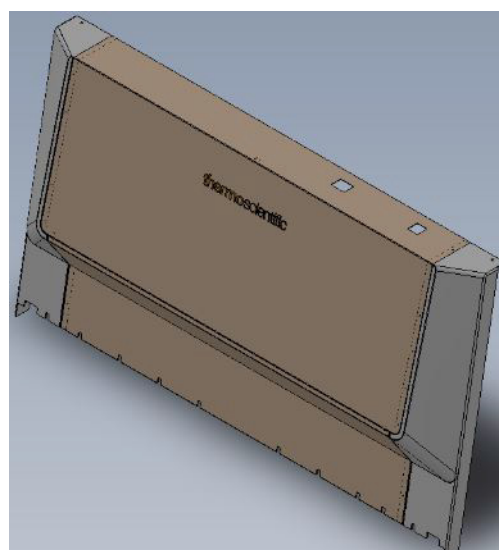

Figure 28. Front cover
4. **Figure 28:** Remove the screws at the upper side of the plenum.